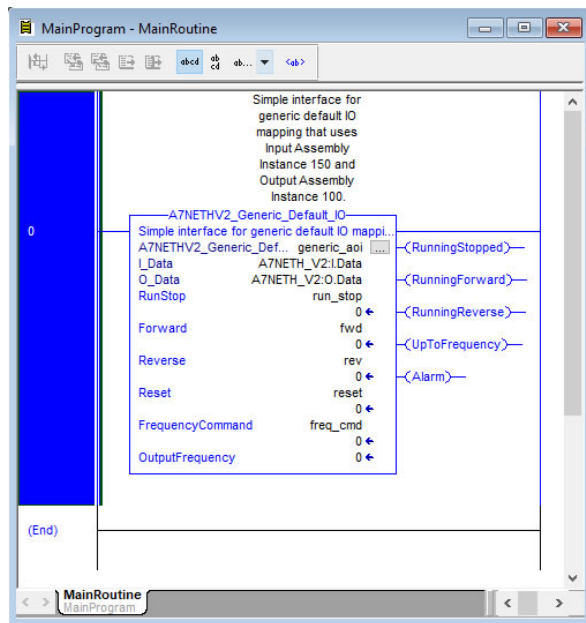

Figure 49: Configure Generic Default AOI
- 10) Edit the add-on instruction according to Figure 49.